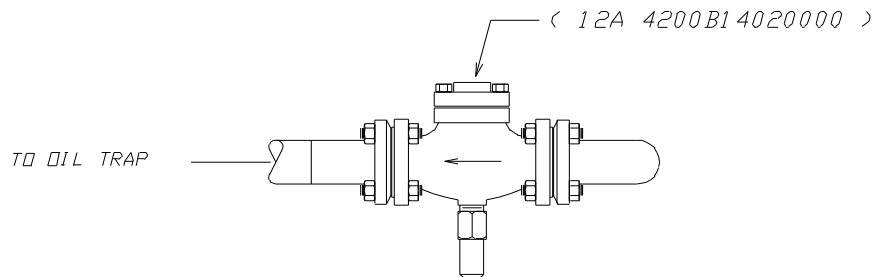

Figure 9-9
Thaw Chamber Check Valve (101) Fig. 9-9. This valve is closed during the freeze cycle to keep the thaw chamber from filling with liquid ammonia. To manually open simply turn the manually opening stem inward. Repair or replace as follows:
2. Shut the thaw gas hand valve (90).
3. Vent additional ammonia vapors from oil trap drain valve (61).